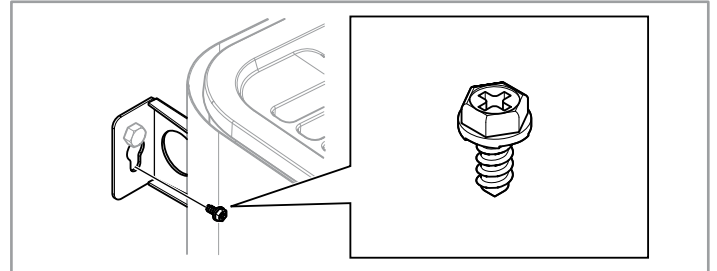

Figure 14: Lock screw for bracket
- Lock the heater into place with the lock screw see Fig. 14.